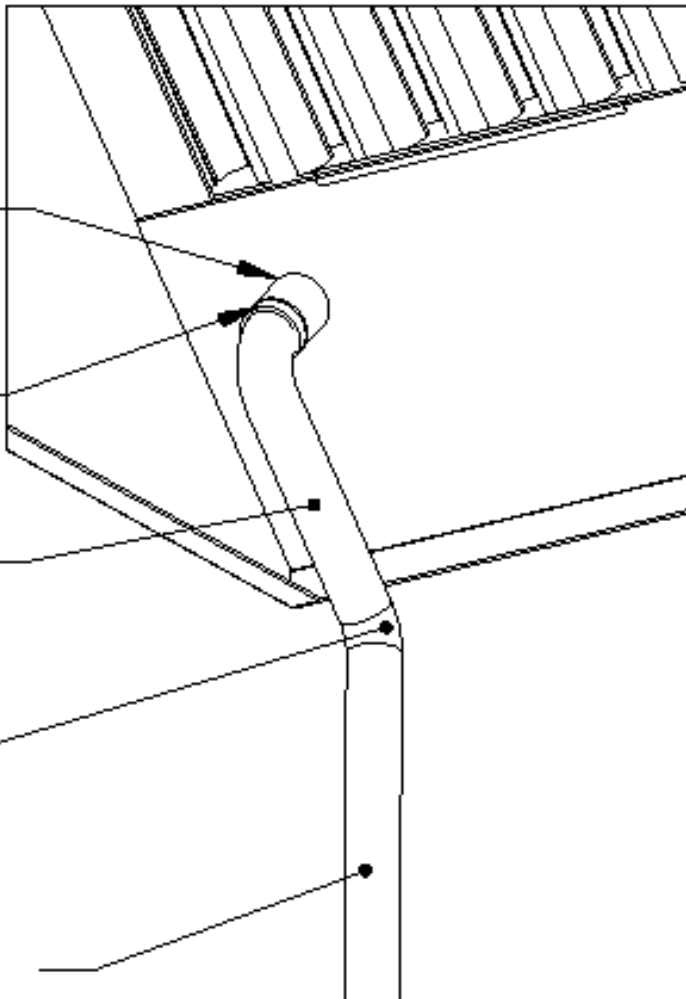

Figure 3
7. There is also a non-pressurized 1-1/2 inch drain connection that must be piped. This allows water to drain from the hood grease trough. It must be connected to the building grease trap. 30 inch tall hoods will have 2 drains and hoods 10 feet and longer will also have 2 drains. See Figure 3 for details.